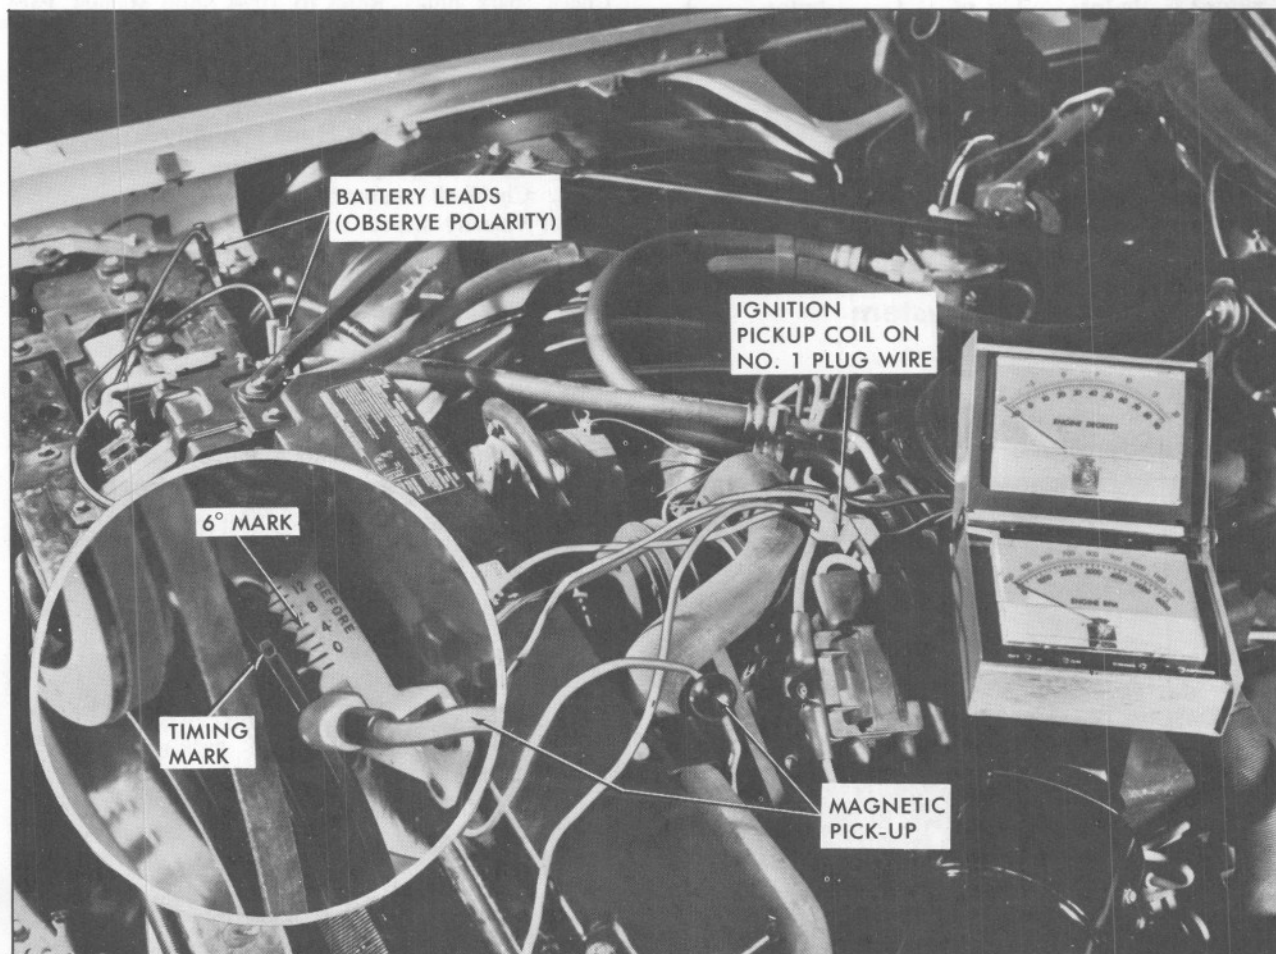

Fig. 6-4 Ignition Timing Adjustment
8. With idle speed at 600 rpm or less, observe timing light flashes on pulley in relation to notches on front cover. Set timing to 6 degrees before top dead center, Fig. 6-4.
4. Connect power supply for timing meter to battery. Observe correct polarity, Fig. 6-4.
5. Install ignition pickup clip over No. 1 spark plug wire, Fig. 6-4. Be sure jaws are clean and locking button is pressed forward to close jaws firmly.